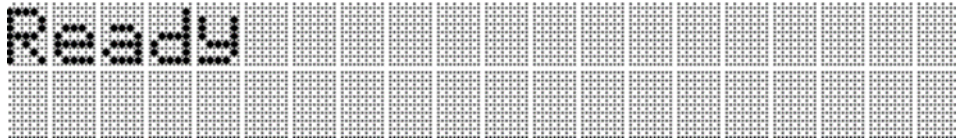

Figure 2.6 LCD screen, idle state
2.4.3. The LCD screen displays the device name, model number, and software version. After a short delay, the system enters an idle state. The LCD screen says “Ready.” See Figure 2.6.
- 3.1.1. Ensure that the 3800 generator is in an idle state. The LCD screen says “Ready.” See Figure 2.6
3.2.1. Ensure that the generator is in an idle state. The LCD screen says “Ready.” See Figure 2.6.